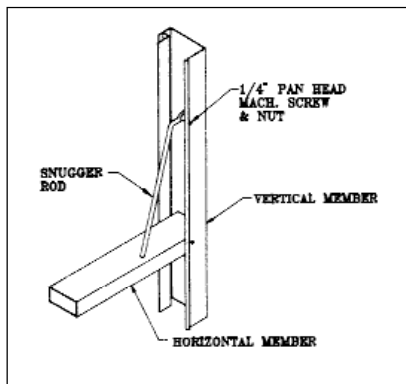

FIGURE 15
Insert snugger rod into the hole in the horizontal door member. Secure opposite end of snugger rod to the vertical member using (1) 1/4" fastener and nut as shown in **figure 15.**